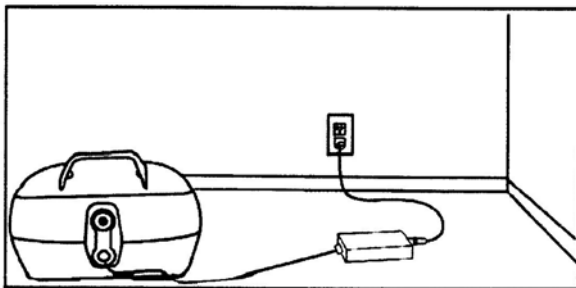

Figure 13. Charging The Batteries
- 1.Position your Travel Scooter or battery pack close to a standard electrical outlet.See figure13.